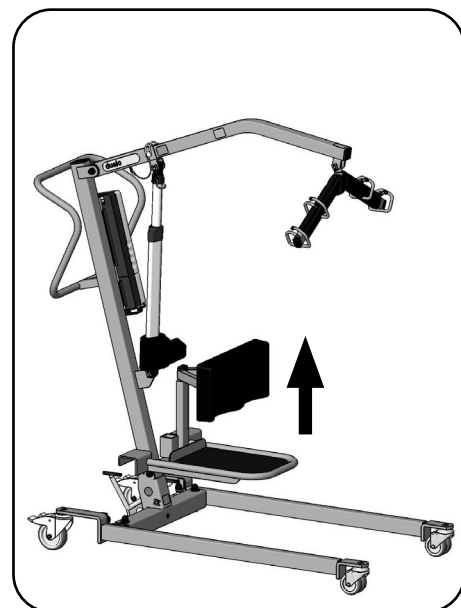

Fig. 8.9.03 – Removing the footboard
5. Remove the footboard from the chassis (Fig. 8.9.03).